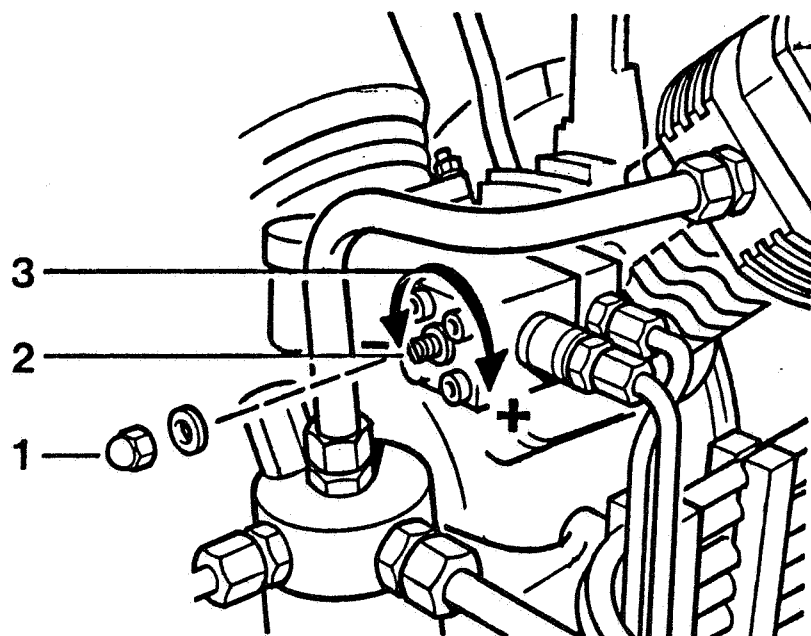

Fig. 2.4 Oil pressure regulator
The oil pressure regulator is mounted on the 4th stage cylinder and adjusted to **60 bars (870 psi)**. Valve can be adjusted by removing cap nut (1) and turning the set screw (2) in the oil pressure regulator (3). See fig. 2.4.